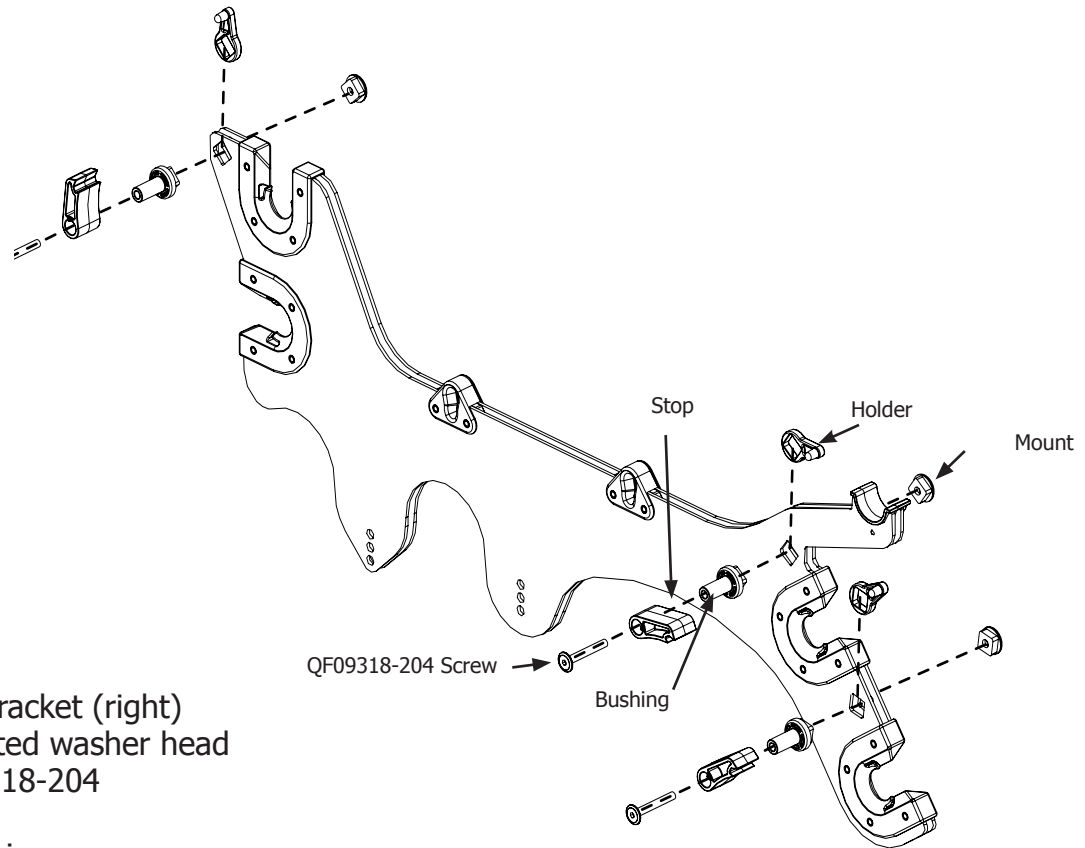

Fig. 8-1
**8-1:** Identify the open-hole pole bracket (right bracket) and the plugged-hole pole bracket (left bracket). Set the plugged-hole pole bracket aside at this time. (**Fig. 8-1**)
**8-2:** Place one ratchet-stop catch between the two metal pieces at the back of the open-hole pole bracket, with the stop nub facing inside, as shown in **Fig. 8-1 and Details 8-1a, 8-1b, and 8-1c** found on the next page. If the ratchet-stop holder will not fit, loosen the two bearing screws nearest the square hole. Slide in the ratchet-stop holder and re-tighten when finished.
**8-3:** Following the parts order shown in **Fig. 8-1**, thread one M6 x 48mm QF09318-204 through a ratchet-stop, ratchet-stop bushing, pole bracket (with ratchet-stop holder inserted) and finally into the ratchet-stop mount. Pay close attention to the orientation of the ratchet-stop. Tighten with the 4mm Allen wrench until the ratchet-stop-holder nub holds the ratchet-stop.
**8-4:** In same manner, attach the remaining ratchet-stops and ratchet-stop catches to the front of the pole bracket, paying attention to the orientation of the ratchet-stops (**Figure 8-1, Details 8-1a, Details 8-1b and 8-1c**) to create the right pole bracket.